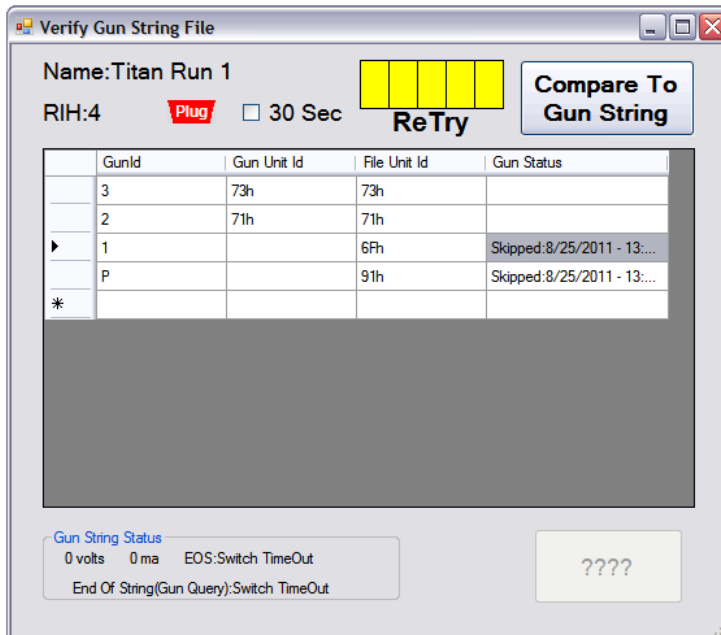

Figure 33
4. The skip operation is accomplished for each gun by right clicking in the Gun Status column and the row of the gun to be skipped. This action opens a dropdown window. Select Gun Skip from the dropdown. For this example both the Plug and Gun 1 were skipped. The result is seen in Figure 33.